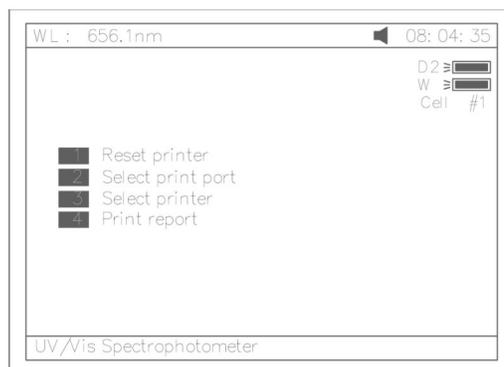
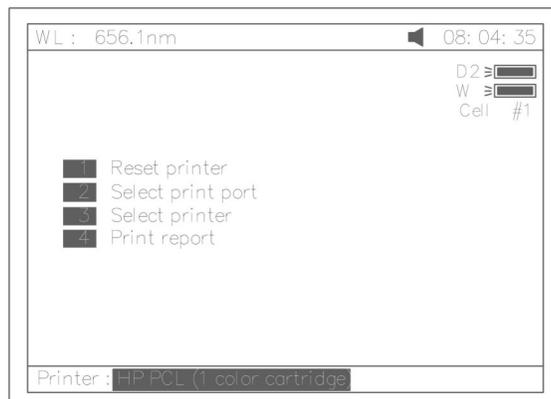
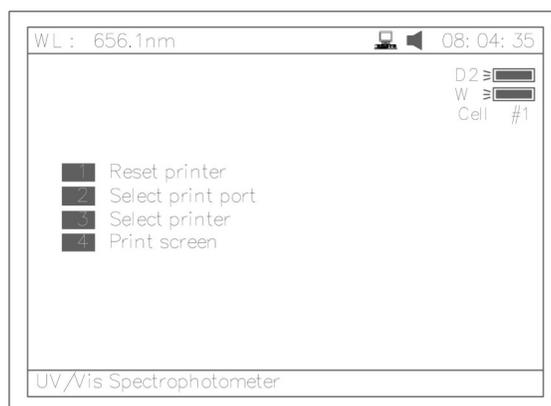

Fig 75
Fig 77
Fig78
Press **[2]** to set printer (Fig 75). **[ESC/STOP]** to exit.
1. Press **[1]** in **Fig 75** to Reset Printer.
2. Press **[2]** in **Fig 75** to select print port (LPT or Comm., Fig 76).
Press **【3】** in Fig 75 to select printer (HP PCL (1 colour cartridge), PCL (black mode), Epson ESC/P or Epson/P2 or above, Fig77).
Press **【4】** in Fig 75 to select print mode. If you select “Print screen” mode, a little icon will be displayed on the top line of the screen (Fig 78), if you select “Print report” mode, the little icon will disappear.